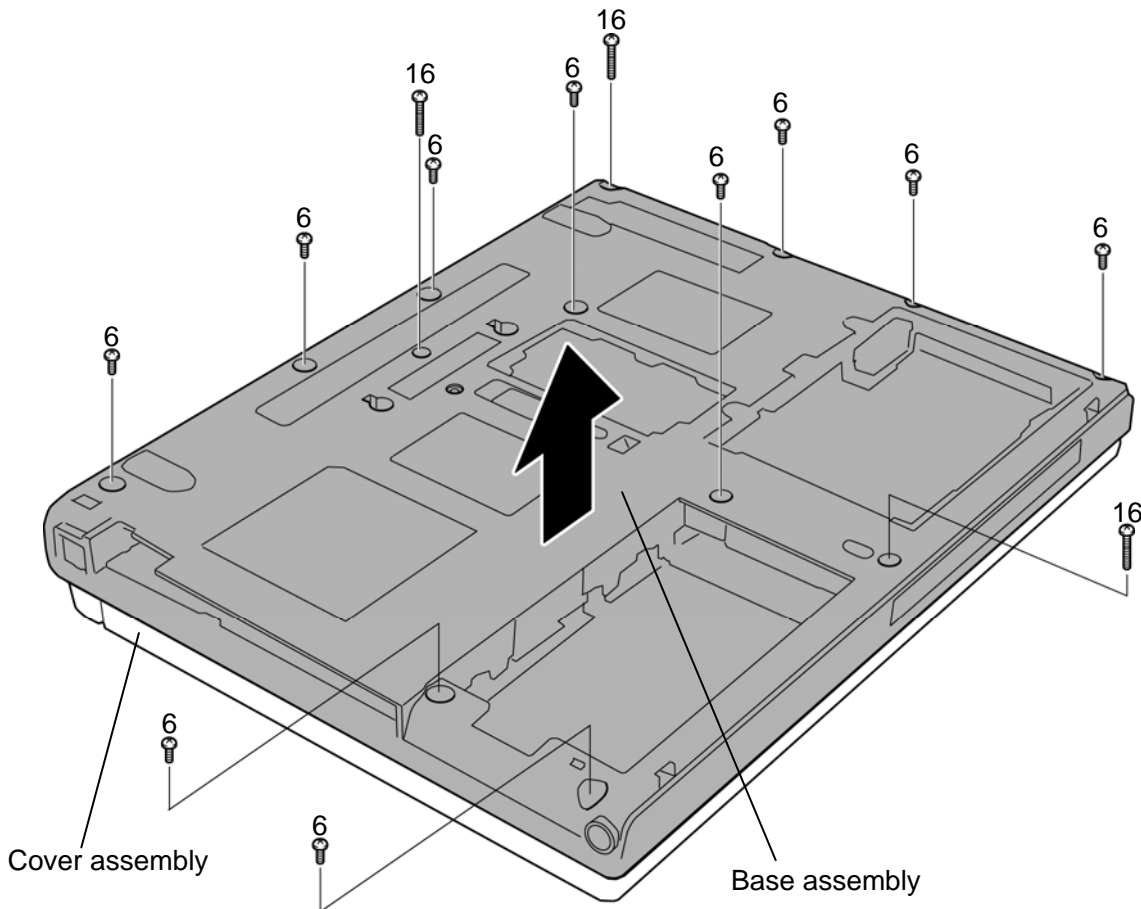

Figure 4-26 Removing the base assembly and cover assembly (3)
- M2.5×16.0B FLAT HEAD screw ×3 (“16” in the figure 4-26)
- M2.5×6.0B FLAT HEAD screw ×10 (“6” in the figure 4-26)